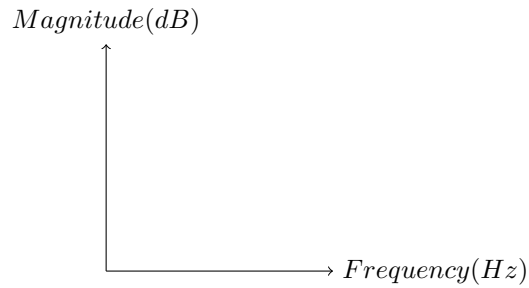

Figure 1 : Audiogram
- The layout of an audiogram is given in *Figure 1*